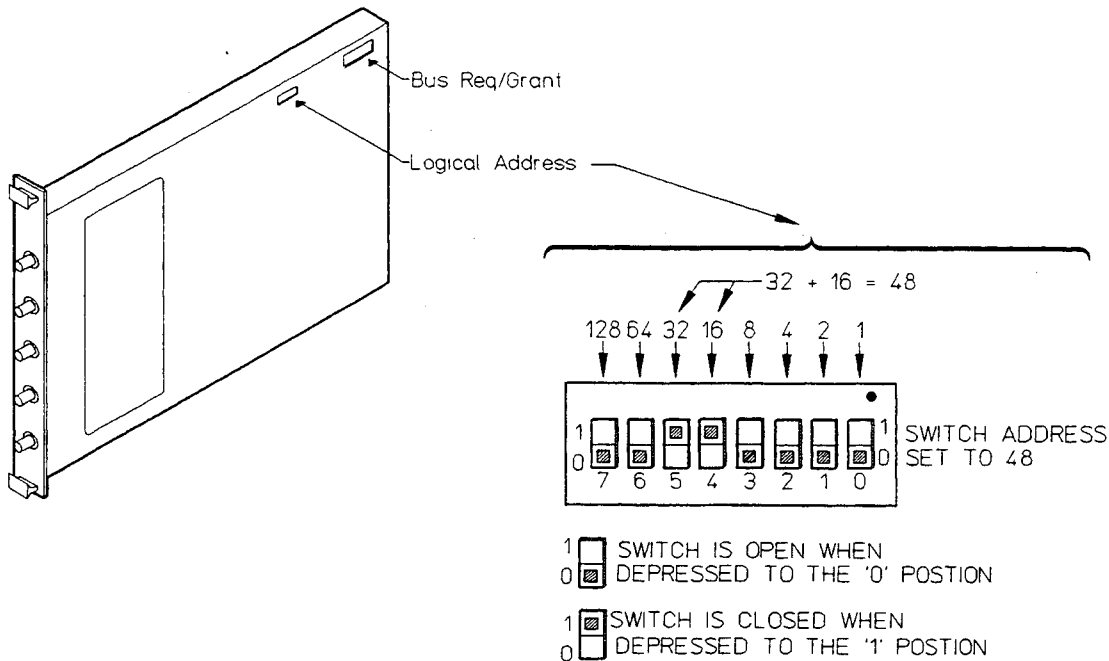

Figure 2-2. HP E1420B Address Switch Location and Selection
1. Locate the logical address 8-pin DIP switch bank located on the right side of the counter module. See *Figure 2-2* for the switch location and address selection.